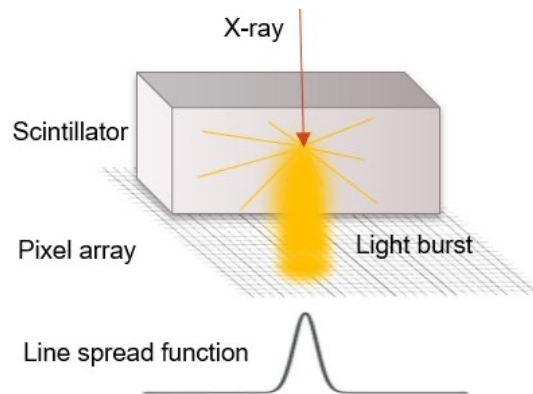

FIGURE 21
- / Light in the scintillator is spread, which causes degradation of the spatial resolution (Fig. 21).